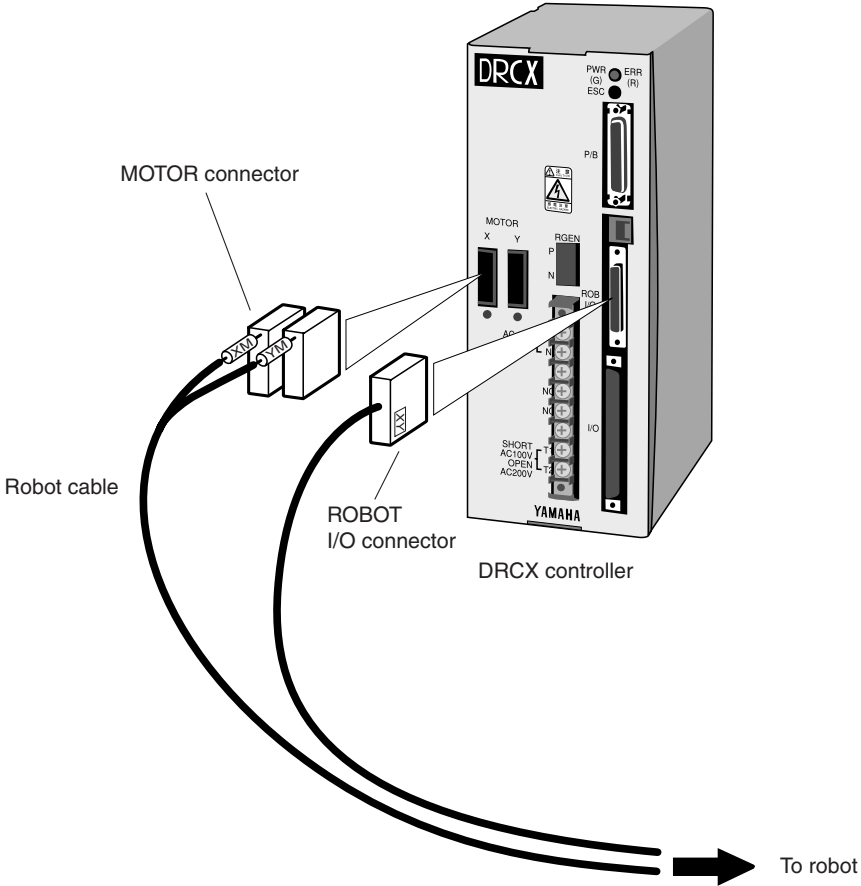

Fig. 3-1 Connection to DRCX controller
- 2) While referring to Table 3-1 and Fig.3-1, securely insert the motor connector into the correct position on the controller until a click is heard.
- 3) While referring to Table 3-1 and Fig.3-1, insert the robot I/O cable into the correct position on the controller.